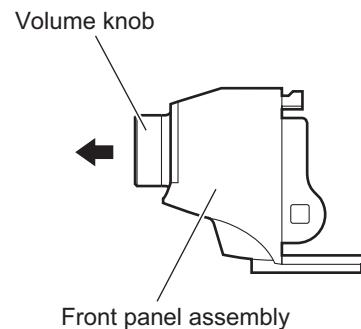

Fig.18
(See Figs.18 and 19)
- (1) From the front side of the front panel assembly, pull out the volume knob in the direction of the arrow. (See Fig.18.)